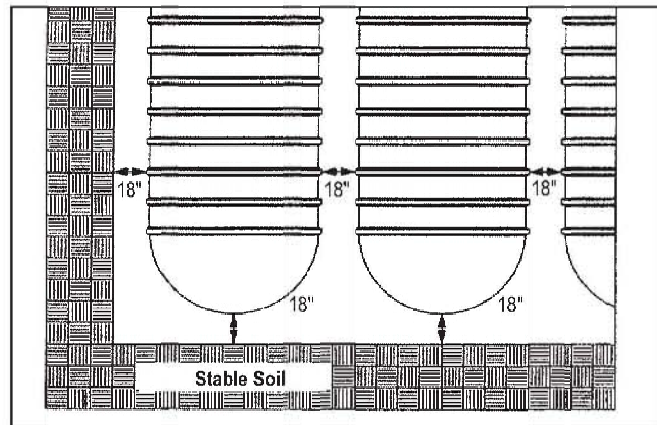

FIGURE 7-3
- 7.5.2.1. The minimum spacing between the sidewall or endcap of the tank and the side of the excavation must be 18 inches. See FIGURE 7-3.
- 7.5.2.2. If two or more tanks are installed in the same hole, allow for at least 18 inches between the tanks. See FIGURE 7-3.